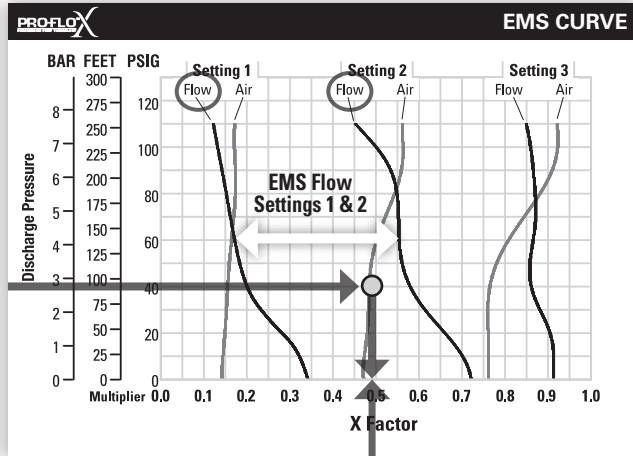

Figure 5
**Step 4: Determine EMS setting from the flow X Factor.** Plot the point representing the flow X Factor (0.49) and the application discharge pressure 2.8 bar (40 psig) on the EMS curve. This is done by following the horizontal 2.8 bar (40 psig) discharge pressure line until it crosses the vertical 0.49 X Factor line. Typically, this point lies between two flow EMS setting curves (in this case, the point lies between the flow curves for EMS setting 1 and 2). Observe the location of the point relative to the two curves it lies between and approximate the EMS setting (Figure 5). For more precise results you can mathematically interpolate between the two curves to determine the optimal EMS setting.